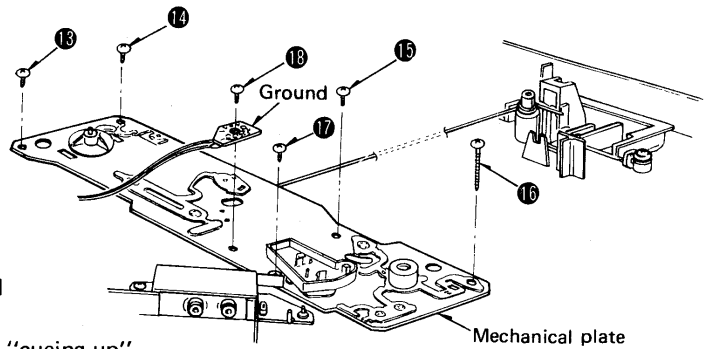

Fig. 6
● **How to remove the mechanical plate (Fig. 6)**
2. Remove the 5 setscrews [ Fig. 6: ⑬ ~ ⑰ ] of the mechanical plate and output terminal shielding plate, and the setscrew ⑱ of the Ground terminal.